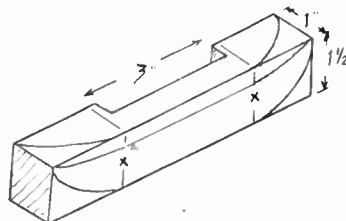

Fig. 2—Making the sides
These latter parts have their outlines, plan and side ones pencilled on, and remember they must be 'paired', as it were, and if marked left and right, no mistake should occur. On the inner face sides of each, saw out a groove, 3 ins. long and 1/4 in. deep, as in sketch, Fig. 2, and leave the parts at top and bottom marked with an (X) flat during the shaping. Then cut to shape and glue to the middle piece, one each side. That portion of the middle piece, running across the opening, made by the grooves, should be sawn away, to leave a clear space, 1/2 in. wide, to house the battery in.